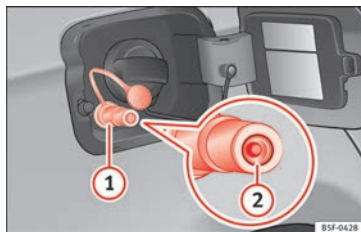

Fig. 173 Tank flap open: gas filler mouth (1), filler mouth retainer (2)
- Remove the plug from the gas filler mouth » **Fig. 173** (1).